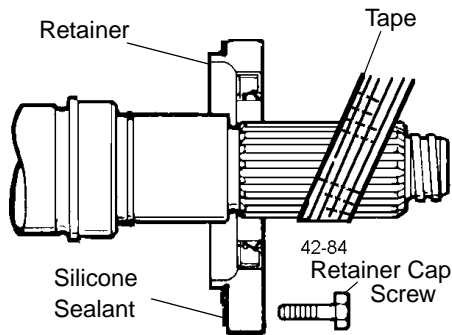
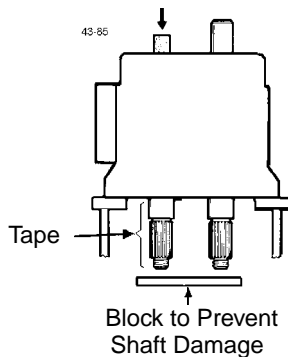

Figure 71 - Remove Bearing Retainers
Figure 73 - Press Shafts from Gear Case
NOTE: Protect the liquid end of the shafts by wrapping them with tape. See Figure 71 and Figure 73.
3. Remove the front bearing retainer screws and pull off the bearing retainers (Figure 71). If a retainer is stuck, leave it in place; it will press out when the shaft is removed.
5. Place the gear case on an arbor press with the liquid end facing down. Protect the shaft ends with a wood or plastic block (Figure 73) and press the shafts out of the gear case. See Table 8, "Arbor or Hydraulic Press Required (Tons)," on page 48.